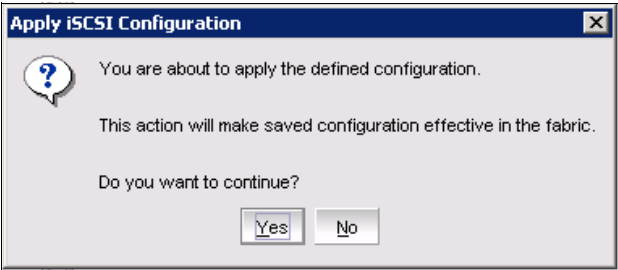

Figure 11-40 Confirm iSCSI configuration changes
17.Click **Yes** in the “Apply iSCSI Configuration” dialog box (Figure 11-40) to confirm the changes.